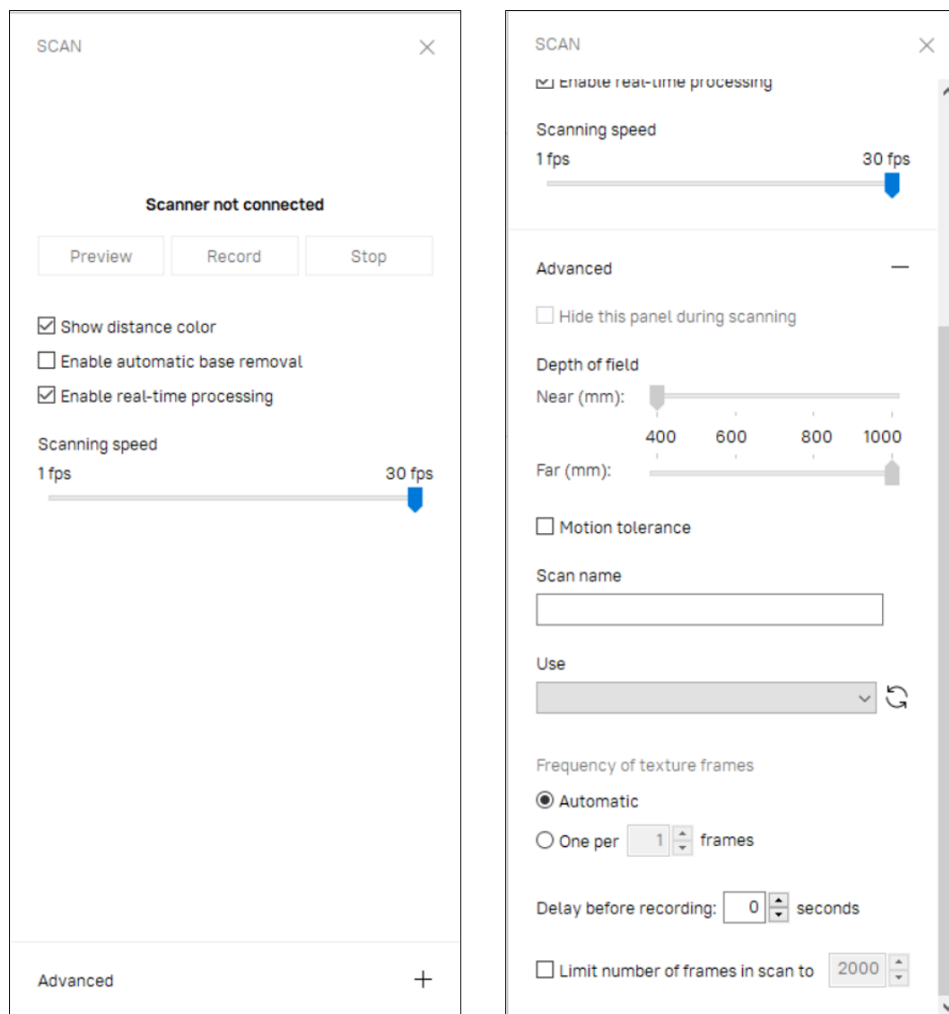

Figure 54: *Scan* panel: *Advanced* section hidden (on the left) and revealed (on the right).
If the scanner connected to your computer supports the HD mode (such as Artec EVA), to enable it, select the *Capture raw HD data* option in the *Scan* panel (Figure 54). Additionally, you can select the *Launch HD reconstruction after scanning* option. The specifics of each of these options are described below.
1. Check the *One per ... frame* radio button (see Figure 54, right).